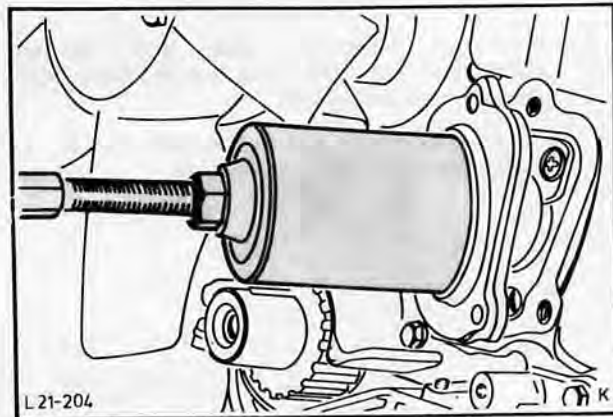

Fig. 234. Fit auxiliary shaft front cover, using Special Tool 21-009-A
10. Slightly lubricate oil seal sealing lip. Fit auxiliary shaft front cover with new gasket (**cut off gasket not required**), using Special Tool 21-009-A, Fig. 234, to avoid damage to sealing lip.